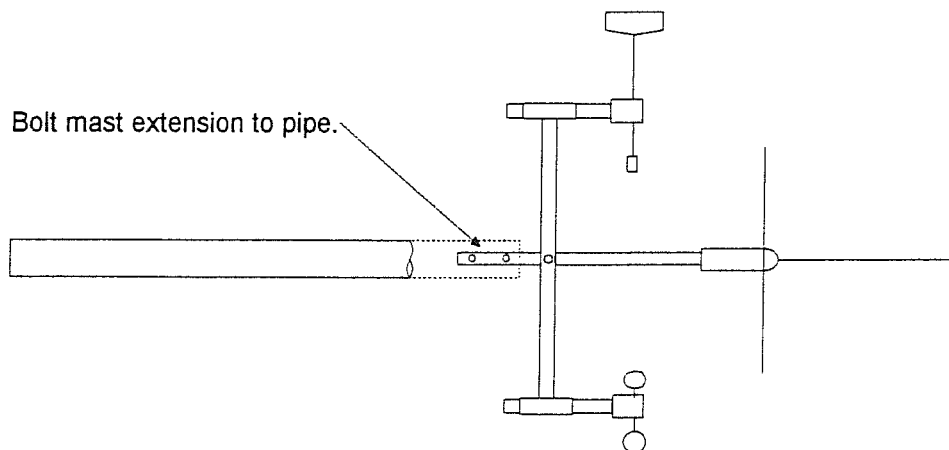

Figure 5-2
2. Slide the mast extension down inside the pipe extension and bolt the wind sensor support assembly to the pipe using the bolts supplied with the mast extension. See Figure 5-2.